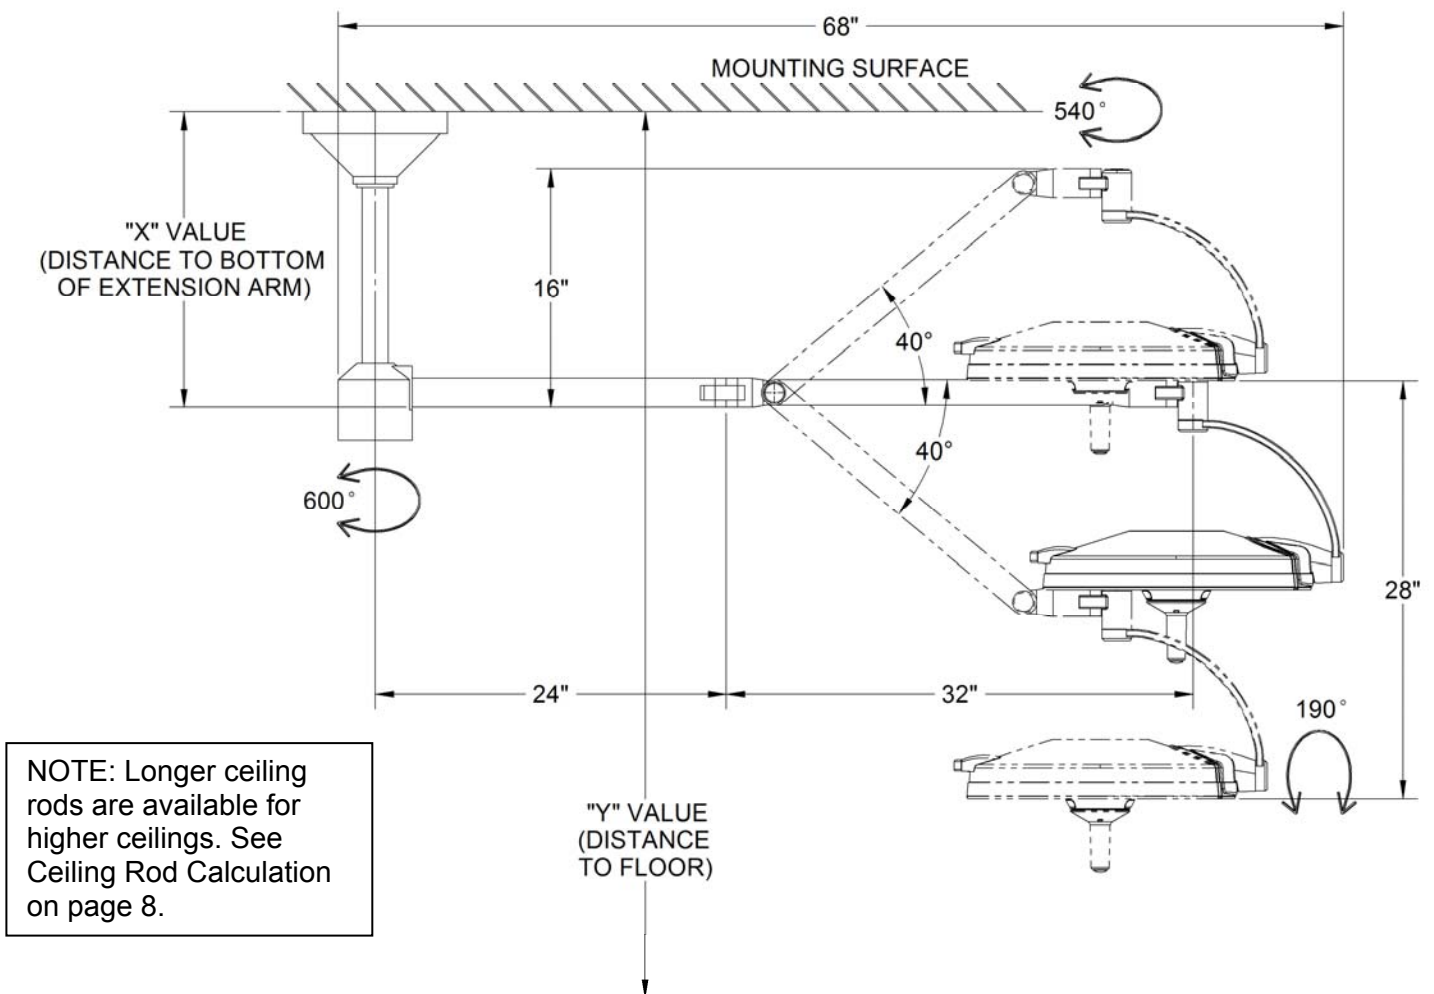
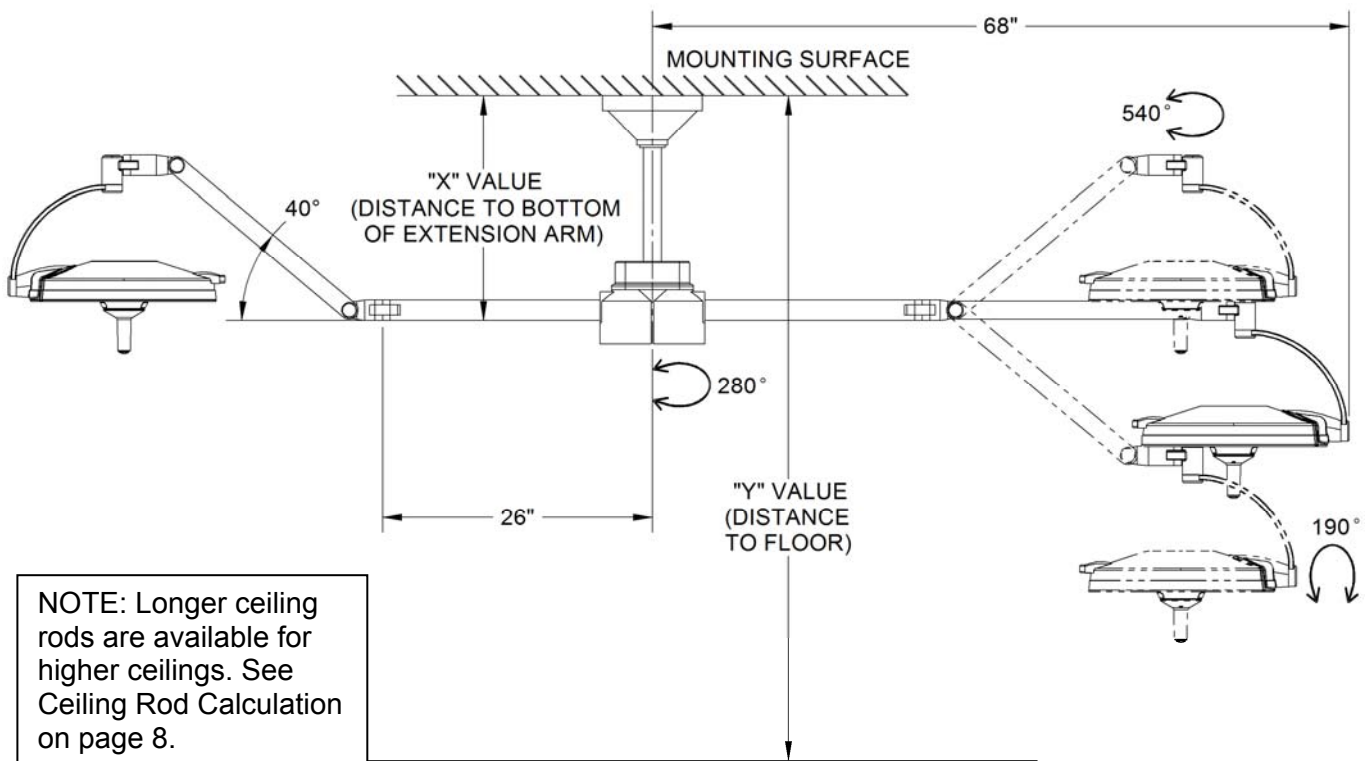

Figure 1. Single Ceiling Mount Ceiling Rod Calculation
Figure 2. Double Ceiling Mount Ceiling Rod Calculation
- Check the length of the ceiling rod supplied to make sure that it is the proper length to install and operate the light without interference or over reach (See Figure 1 or Figure 2).